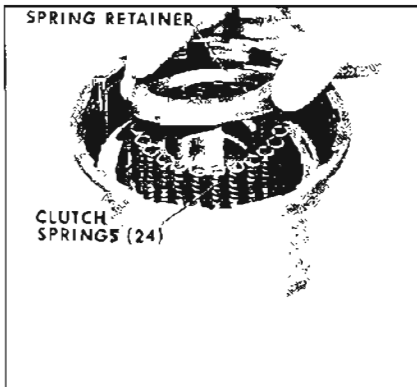

Figure 5-220
8. Lift off spring retainer and twenty-four (24) clutch springs. See Figure 5-220.